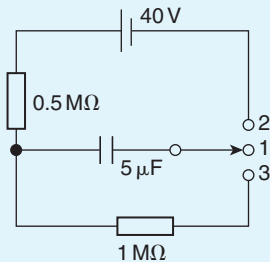

Figure 18.9
- In the circuit shown in Fig. 18.9, with the switch in position 1, the capacitor is uncharged. If the switch is moved to position 2 at time $t=0\ \text{s}$, calculate the
v_R are equal in magnitude but opposite in direction. The current decays exponentially to zero and since v_R is proportional to the current flowing, v_R decays exponentially to zero. Since $v_L = v_R$, v_L also decays exponentially to zero. The curves representing these transients are similar to those shown in Fig. 18.9.